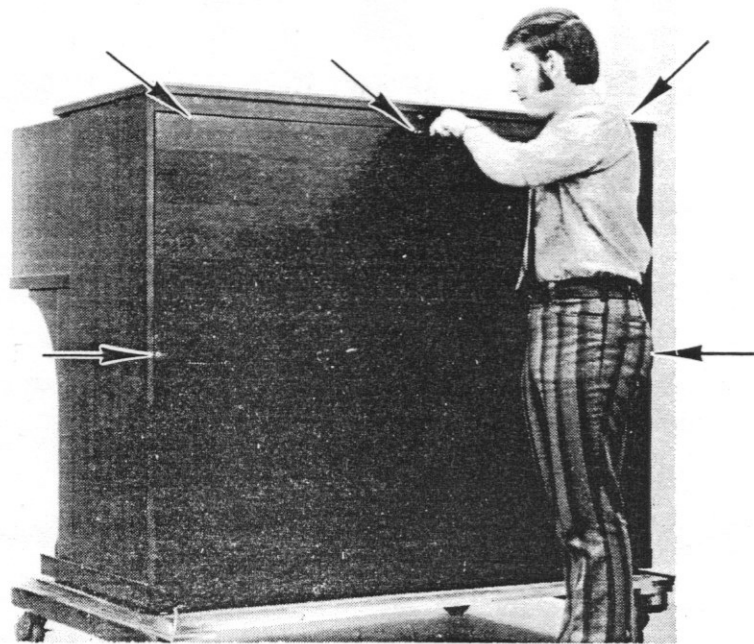

Fig. 1-1.
I. REMOVING THE CONSOLE BACK: (Refer to Figure 1-1).
- A. Remove the three screws on the back, located just below the lid. (See Figure 1-1).